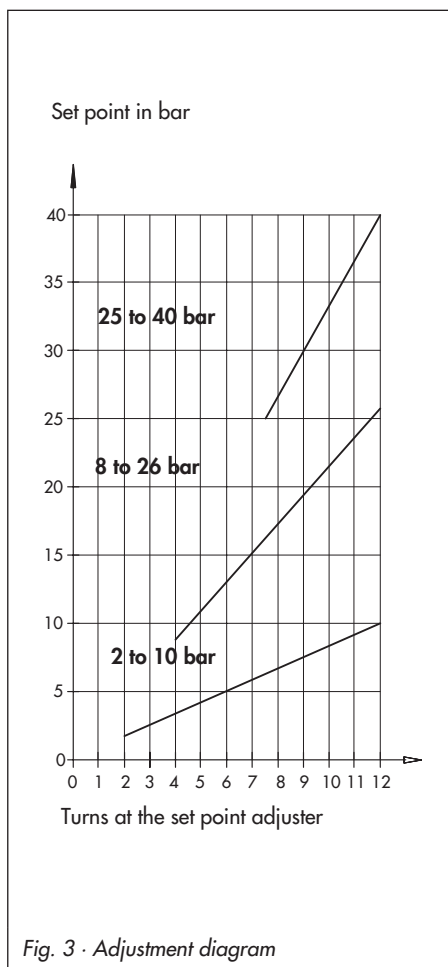

Fig. 3 · Adjustment diagram
2. Determine the difference between the fixed set point (Table 1) and the required set point. Turn the set point adjuster the required amount of turns as specified in Fig. 3.